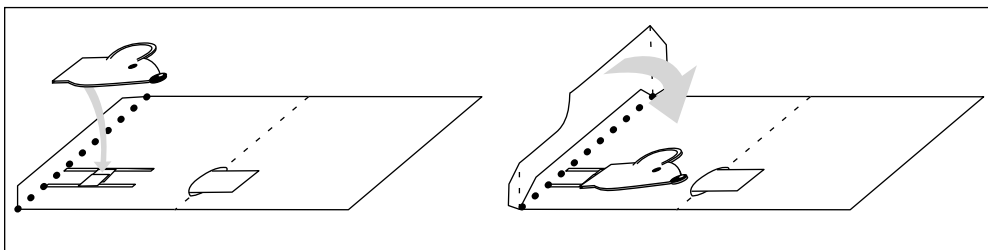

Figure 8-10:
7. Glue the head and the hole cover into place (see Figure 8-10).